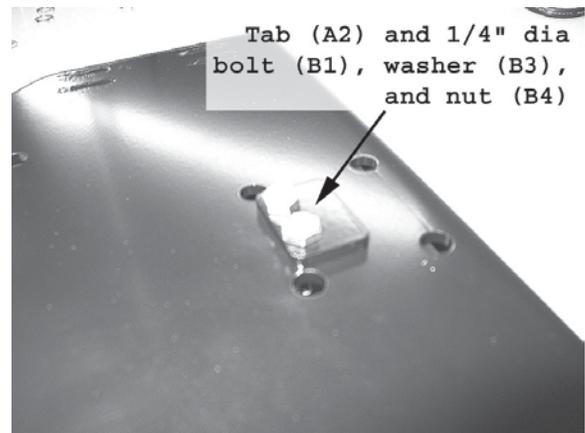

Figure 1 Attach Tab to Plow Mount
1. Attach the Tab to the Plow Mount with two 1/4" dia-1" long bolts, 1/4" washers, and 1/4" nylock nuts as shown in Figure 1. Align the tab edges to the plow edges before tightening. The heads of the bolt should be on the tab side while the washers and nuts on the underside of the plow mount.